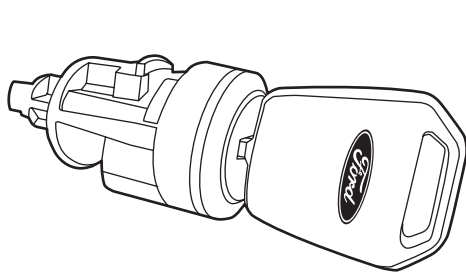

FIGURE 7
10. Drop the Cap (G) into the Cylinder-Housing sub-assembly aligning the Cap protrusion with the Cylinder slot (Refer to Figure 7).
11. Insert the key once again to flush the Cap (G) with the housing (E) (Refer to Figure 7)